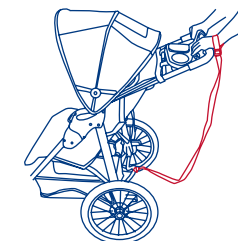
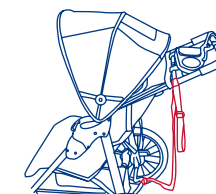

Fig. 20
Fig. 21
- SAFETY WRIST STRAP:** Always connect the safety strap to either wrist when jogging. This strap will keep the stroller from rolling away in the event that you trip while running. (Fig. 20) The safety strap must remain connected to the rear lower frame cross member at all times. This location is intended to prevent the stroller being tipped backward in the event that you do fall to the ground. The safety strap includes a Velcro attachment for storage, on the left side of the stroller, when not in use. (Fig. 21)